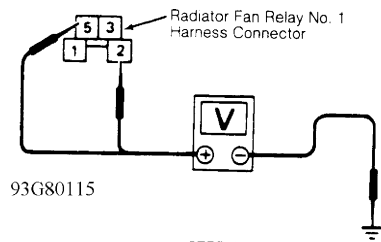

Fig. 46: Testing Radiator Fan Low Speed Circuit (Step 1, NX & Sentra 1.6L A/T)
1) Turn ignition off. Disconnect radiator fan relay No. 1. See Figs. 51-53. Turn ignition on. Measure voltage between ground and radiator fan relay No. 2 harness connector terminals No. 2 (White/Green wire) and No. 5 (Black/White wire). See Figs. 46 and 47. Battery voltage should be present. If battery voltage is present, go to step 3). If battery voltage is not present, go to next step.
3) Turn ignition off. Disconnect radiator fan motor No. 1 and radiator fan motor No. 2 harness connectors. Check continuity between radiator fan motor No. 1 harness connector terminal "a" (Brown/White wire) and radiator fan relay No. 1 harness connector terminal No. 3 (Brown/White wire). Check continuity between radiator fan motor No. 2 harness connector terminal "a" (Brown/White wire) and radiator fan relay No. 1 harness connector terminal No. 3 (Brown/White wire). See Figs. 46 and 47.
4) Check continuity between radiator fan motor No. 1 harness connector terminal "d" (Black wire) and ground. Check continuity between radiator fan motor No. 2 harness connector terminal "h" (Black wire) and ground. See Figs. 46 and 47. Continuity should exist in all checks. If continuity exists in all checks, go to next step. If continuity does not exist in any check, repair open in appropriate wire or connector.